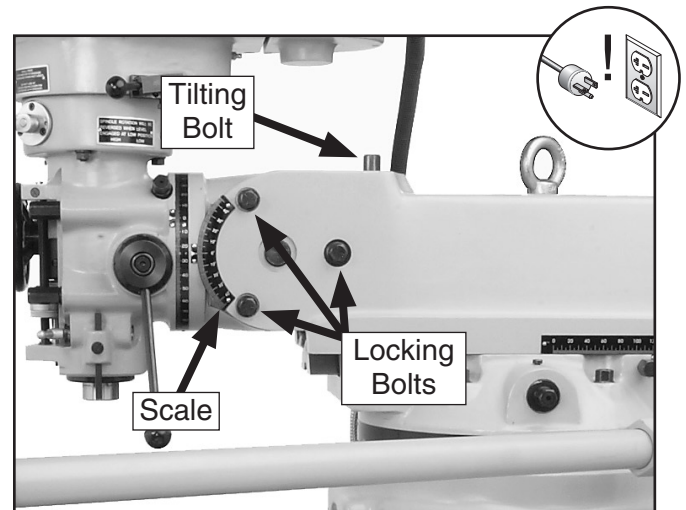

Figure 31. Head tilting bolts.
2. Loosen the three tilt locking bolts shown in **Figure 31**.